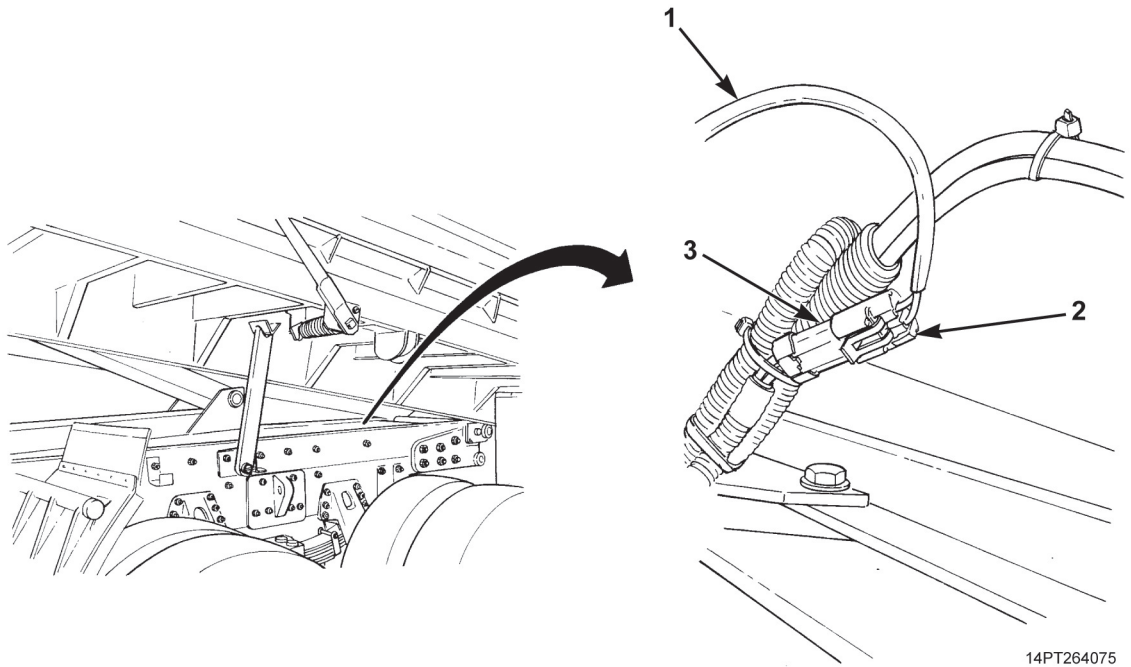

Figure 2. Beacon Warning Light Wiring Harness Removal.
6. Disconnect wiring harness connector (Figure 2, Item 2) from chassis wiring harness connector (Figure 2, Item 3).
7. Remove wiring harness (Figure 2, Item 1).